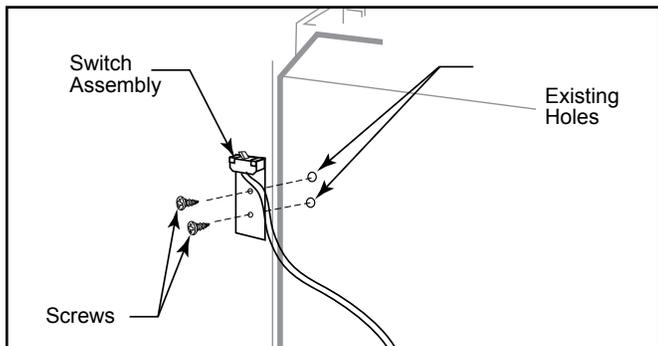

Figure 7 - Attach switch assembly to rear shroud.
1. Attach switch assembly to left rear side of stove shroud using two screws and existing holes in shroud. (Figure 7)